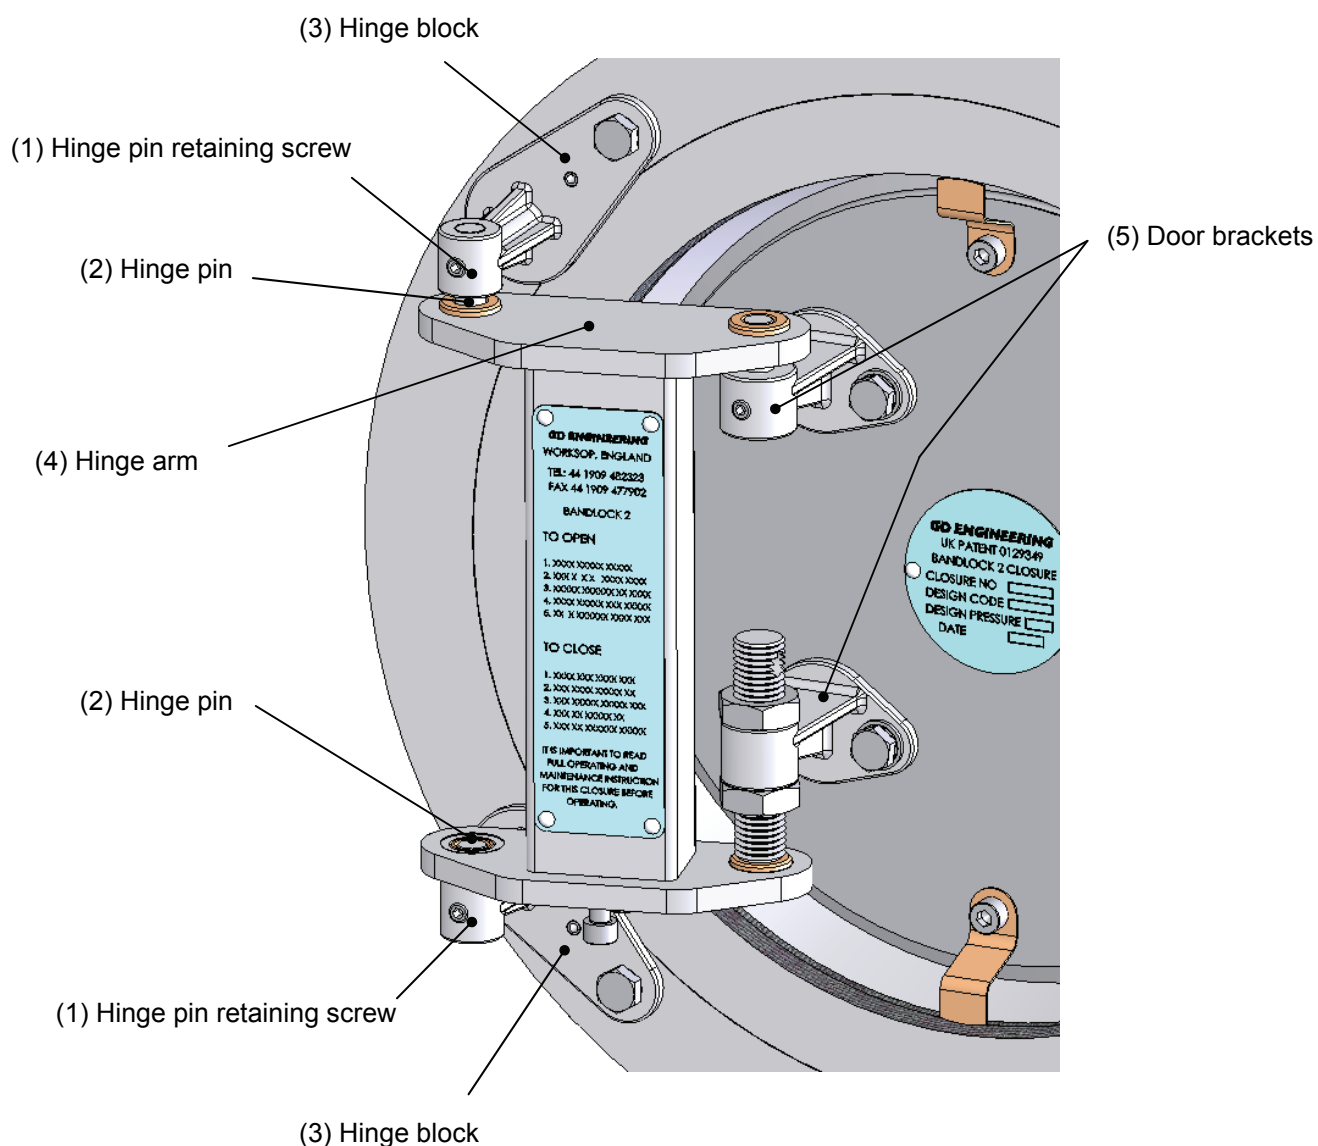

Fig 4.0 – Closure Door Removal / Re-installation
- 2 Ensure that the Bandlock™2 closure door is adequately supported in an approved sling (some larger doors may have a lifting eye provided for additional safety). Referring to Fig. 4.0, loosen the hinge pin retaining screw (item 1) and remove the hinge pin (item 2) connecting the hinge block (item 3) to hinge arm (item 4).
- 1 Ensure that the closure door is adequately supported in an approved sling (some larger BL2 doors may have a lifting eye bolt provided). Refit the hinge pins (Fig 4.0 item 2) and tighten their retaining screws (Fig 4.0 item 1).